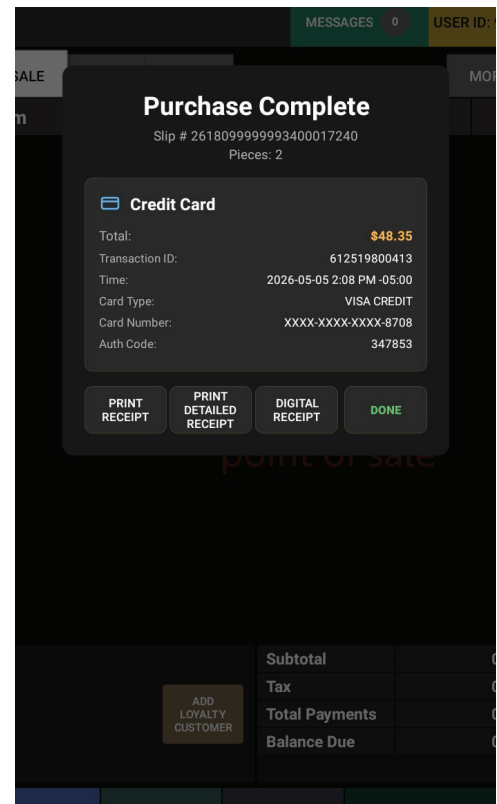

Figure 60
1. Once payment is complete, the Purchase Complete (Figure 60) screen will appear. You may now choose how to deliver the receipt: